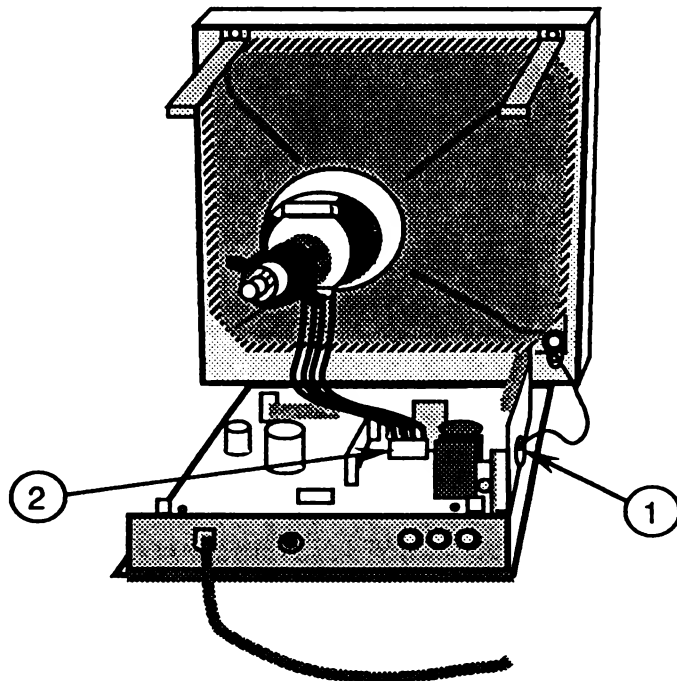

FIGURE 40
10. Remove the single screw (Figure 40, #1) that secures the green ground wire to the side of the chassis.
12. Disconnect the CRT connector (red/blue/yellow/green) from the logic board (Figure 40, #2).